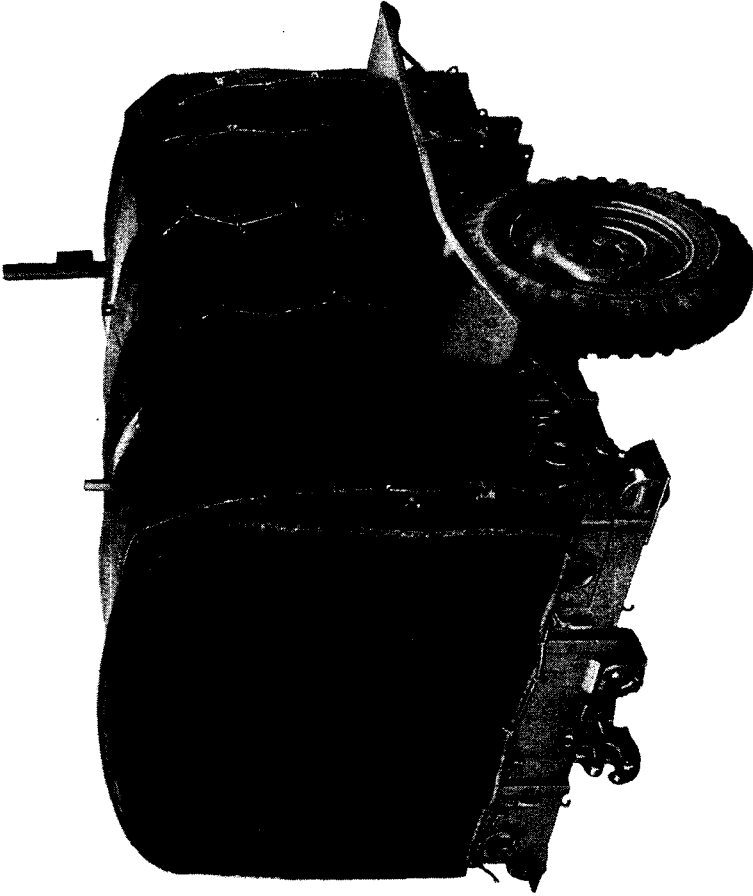
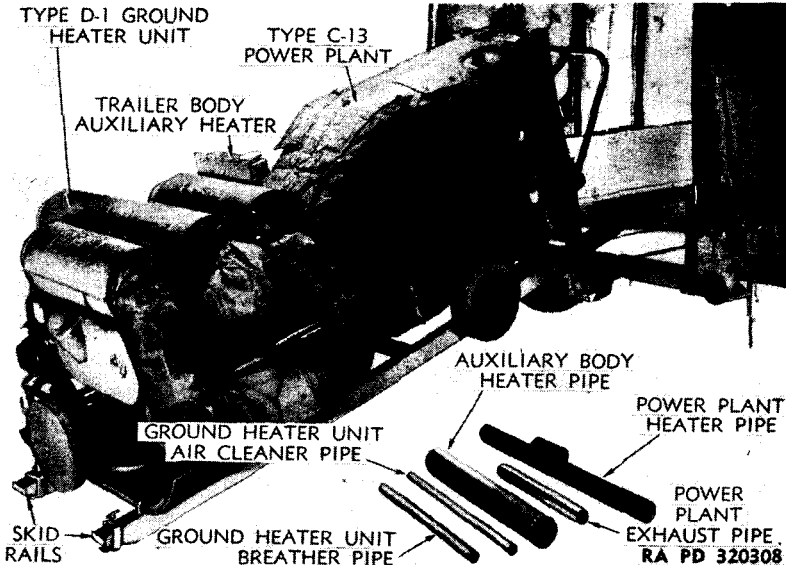

Figure 4—1-ton Snow Trailer M19—Right Rear View
Figure 8—Installing Aircraft Engine Heater and Booster Unit
a. Description. The trailer is a combination unit which may be used as a wheeled trailer or as a sled for travel over snow (figs. 4 and 5). By removing reversible insulated canopy and canopy support assembly, it may also be used as a flat trailer (fig. 6). Hooks are provided under frame for lashing tarpaulin over load when used in this manner. The trailer can be used as a heated litter conveyance by installing canopy support, insulated canopy, and trailer body heater (fig. 7). The trailer can be used as a mobile cold weather heating and starting unit for aircraft engines by installing the aircraft ground heater unit type D-1, power plant unit type C-13, and auxiliary pot heater attached to skids into the canopy covered body (figs. 8 and 9). Litters are to be folded and suspended from trailer roof by the straps provided. Trailer is equipped with two dome lights inside canopy support, combination service and blackout taillights, and selector switch for operation of taillights. The power (6 volts) for lights and body heater is supplied from prime mover. Drawbar is equipped with a spring-loaded eye for attaching to prime mover. Rear of trailer is equipped with a pintle and outlet receptacle for attaching another M19 1-ton trailer.